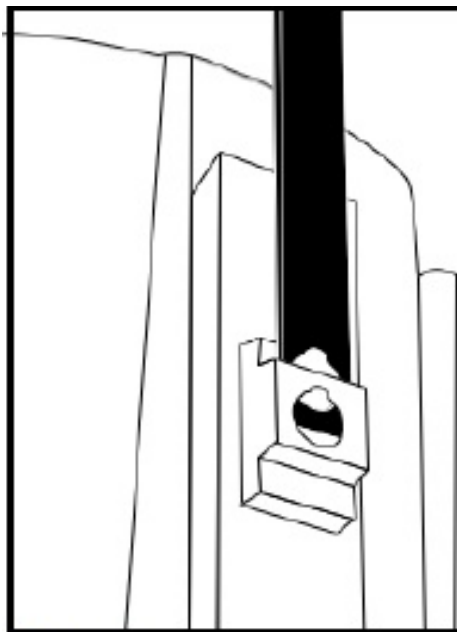

Fig. 1
1. Attach the filter hanger to the track on the back of the filter by aligning the water drops as shown (Fig. 1).